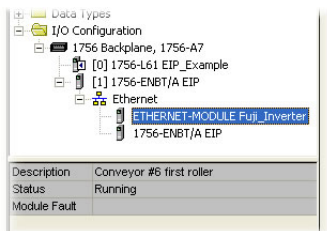

Figure 89: Online Module Status
- 7) Switch to online mode and download the project to the PLC. Verify that the newly-added inverter is available and operating correctly by observing any indications shown on the inverter’s icon. When the inverter’s icon is selected, its status and any available error messages will be displayed in the area below the project tree. Refer to Figure 89. Also confirm that the interface card’s “Network Status” LED should be solid green, indicating an “online/connected” state.